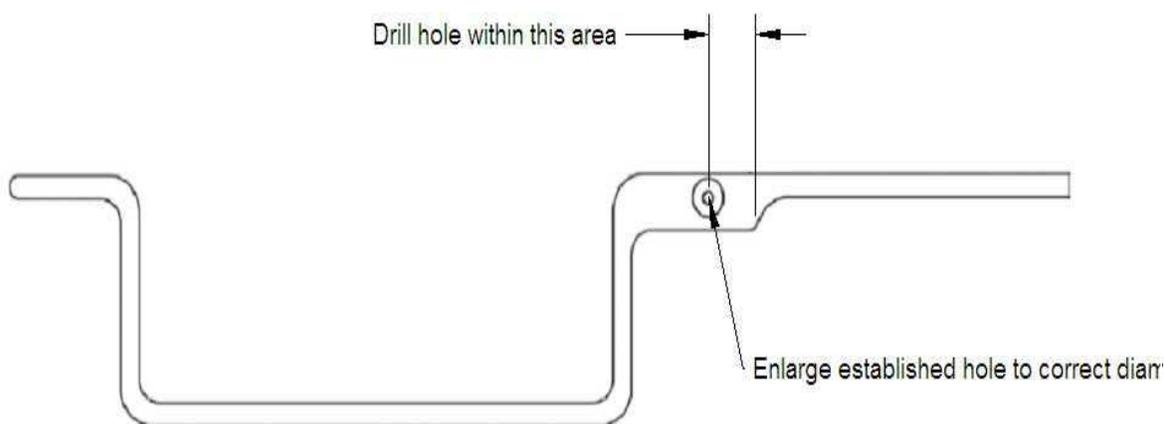

Figure 15
- B. **Drill a hole through the sustain lever.** Using the diagram in figure 15, drill a #20 (4 mm) hole through the sustain lever as indicated. Locate the pivot pin in the kit, place a little grease on the pivot pin and tap it into the hole with a hammer. The grease helps with the press fit of the pin.